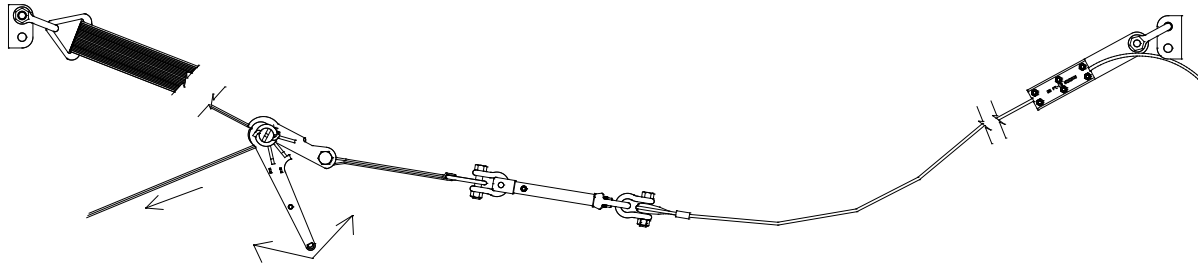

Fig. 9 Tensioning the Horizontal Lifeline
27. Begin lifting the horizontal lifeline cable assembly to its intended position (see Figure 9). If Bypass Stanchions are being used, the cable must be placed through the center of the bypass fittings before the cable is properly tensioned. Pass the free end of the ratchet strap into the slot of the ratchet. Pull the free end of the ratchet strap to help remove slack from the lifeline cable.